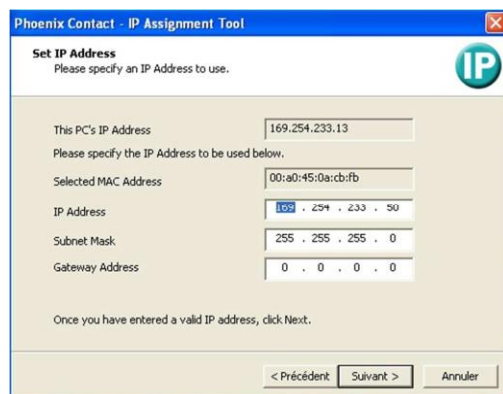

Figure 7. IP address configuration.
- We will know in the next page (see Figure7) configure the controller IP address with the following parameters :